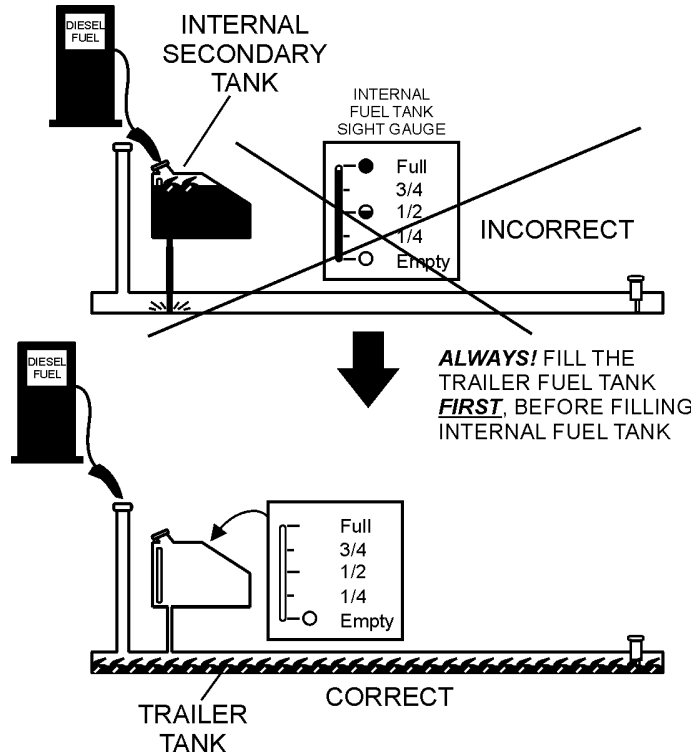

**Figure 32. Only Fill on Level Ground**
1. **Level Tanks** – make sure fuel cells are level with the ground. Failure to do so will cause fuel to spill from the tank before reaching full capacity. See Figure 32.